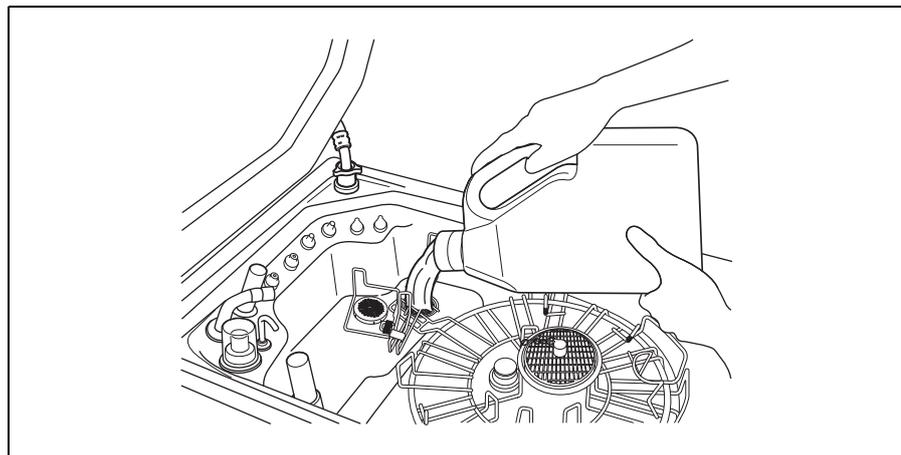

Figure 7.81
6. Slowly pour the disinfectant solution to the drain port into the reprocessing basin (see Figure 7.81).